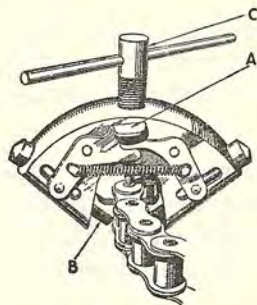

Fig. X7.
A chain rarely breaks if it is kept properly lubricated and adjusted. Usually it is worn out long before it reaches breaking point. The rear chain is the most heavily stressed and is therefore the one most likely to give trouble. Spare parts should be carried to enable the rider to carry out a repair on the road with the aid of a chain rivet extractor (see Fig. X7). The front chain will probably be worn out before it requires shortening.
First press down lever A (Fig. X7) to open the two jaws (B). Insert the link to be removed so that the jaws grip the roller and support the uppermost inner side plate. The punch (C) is then screwed down on to the rivet head until the rivet is forced through the outer plate.